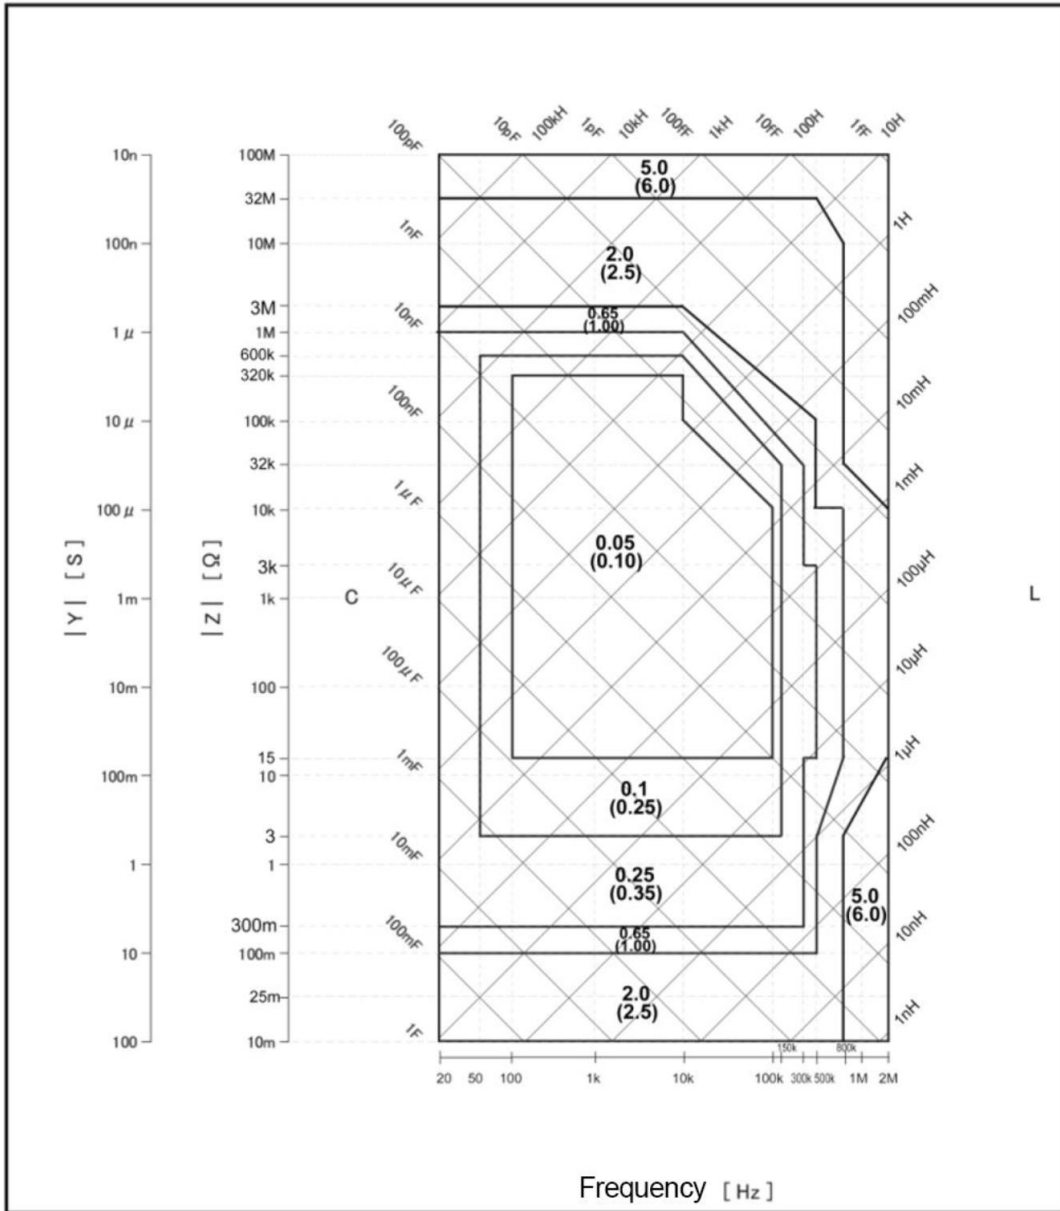

Figure 8-1 Basic Measurement Accuracy Factor A
- A: Basic Measurement Accuracy (Figure 8-1)